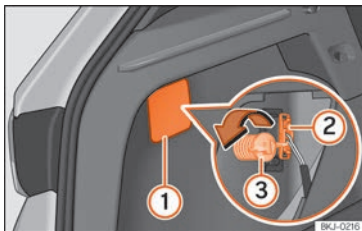
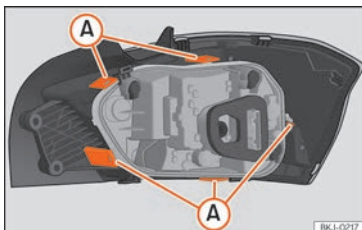

Fig. 108 Boot: access to the bolt securing the tail light unit.
Fig. 109 Retaining tabs on reverse side of tail light.
3. Remove the lid, levering the flat side of a screwdriver into the recess »» Fig. 108 ①.
4. Remove the bulb connector ②.
5. Unscrew the bolt securing the light ③ by hand or using a screwdriver.
7. Remove the bulb holder unlocking the retaining tabs »» Fig. 109 A.